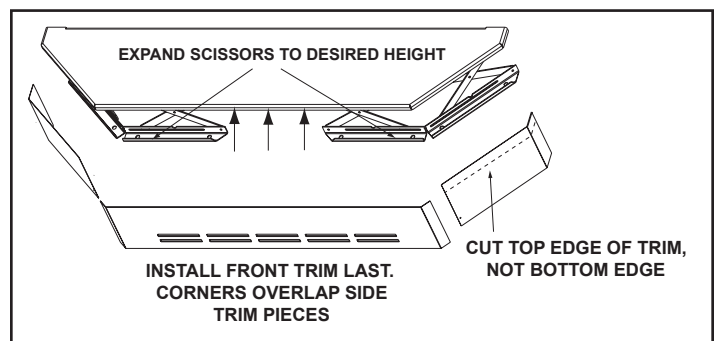

Figure 21.2
3. Measure front and side trims to required height to cover scissors and mark pieces for cutting. Cut excess material from **top** of trims edge, not bottom. This edge will be sharp; wear gloves to prevent injury to your hands. The cut edge fits under lip of top trim, so it allows for some variance in your straight edge. **Figure 21.2.**